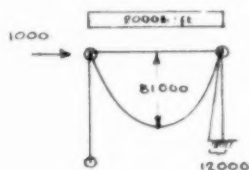
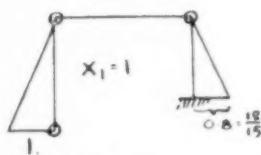

Fig. 20.
Fig. 21.
**Example 6a.**—The same frame as in Fig. 12, Case C, is to be designed with three hinges B, C, and D, where D is a steel hinge. Fig. 20 is the determinate case. Figs. 21 to 23 shows cases  $X_1 = 1$ ,  $X_2 = 1$ , and  $X_3 = 1$ .